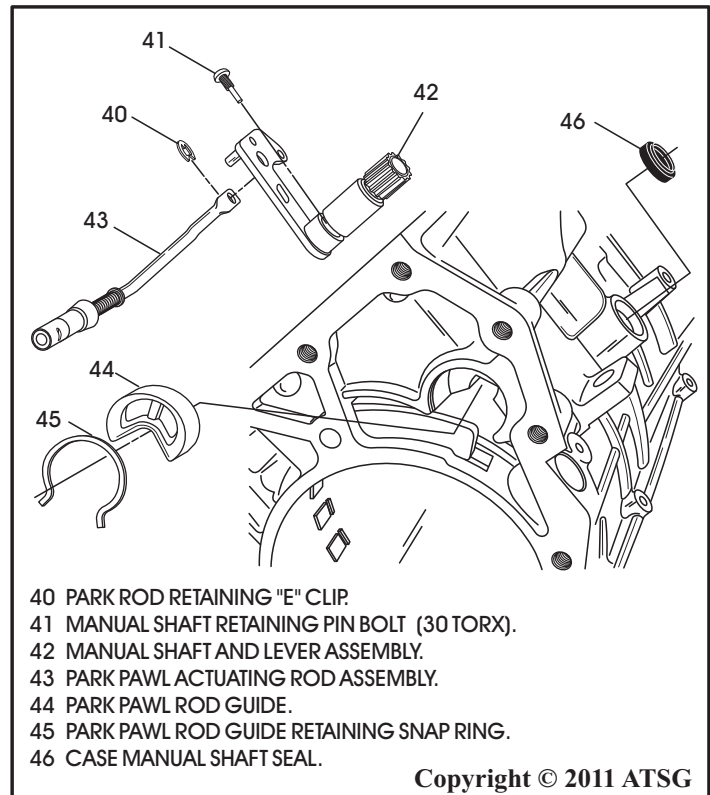

Figure 62
4. Install the park rod guide into the transmission case, as shown in Figure 62.
5. Install the park rod guide retaining snap ring in case groove using a pair of pliers and ensure that it is fully seated (See Figure 62).
6. Install manual shaft and lever assembly through the inside of case and into the manual shaft case bore, as shown in Figure 62.
7. Install manual shaft and lever assembly retaining pin bolt, using a 30 torx bit and torque the bolt 28 N·m (20 ft.lb.). (See Figure 62 and 64).
8. Install park actuating rod assembly through park rod guide and parking pawl, and onto the pin on manual lever (See Figure 62 and 64).